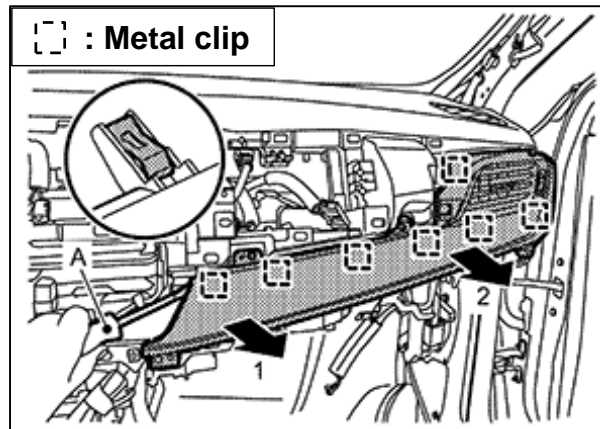

Figure 104
71. Disengage the seven (7) RH side ventilator grille assembly metal clips, as indicated by the arrows shown in Figure 104, and then remove the RH side ventilator grille assembly.